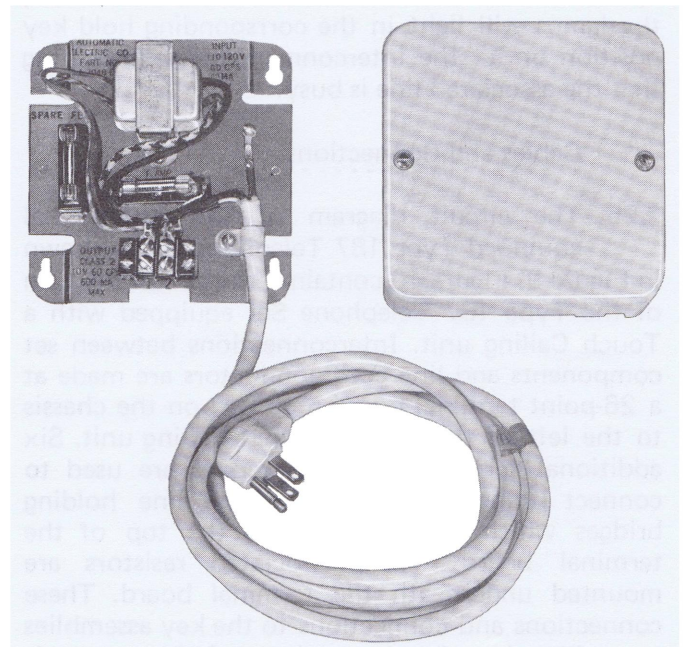

Figure 7. L-7048 Power Supply with Cover Removed.
2.24 The three lamp jacks adjacent to the hold keys are equipped with incandescent lamps. By use of an externally mounted L-7048 power supply (Figures 7 and 8), these lamps can be made